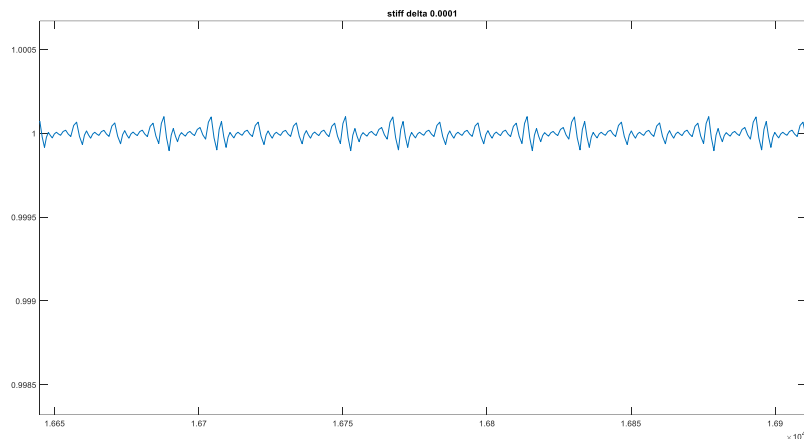

Figure P2
You should get a plot like figure P2
- c. Now use ode23s with the same delta 0,0001 and plot the steady state response. Compare with figure P2